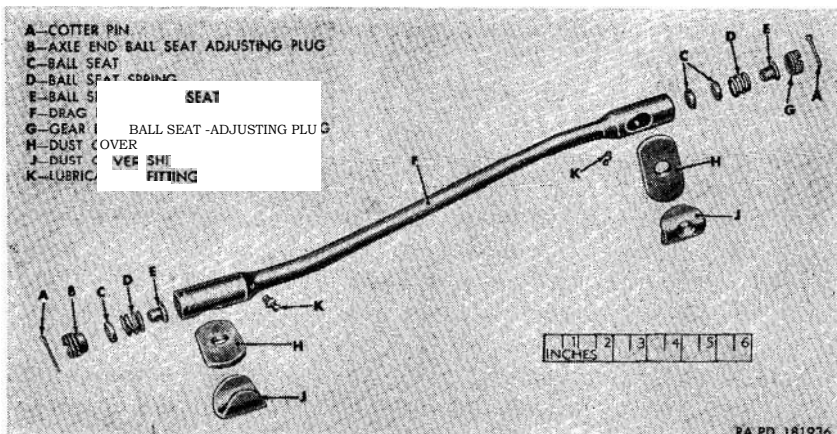

Figure 153. Drag link assembly—exploded view.
*Note.* The key letters. noted in parentheses are in figure 153, except where otherwise indicated.